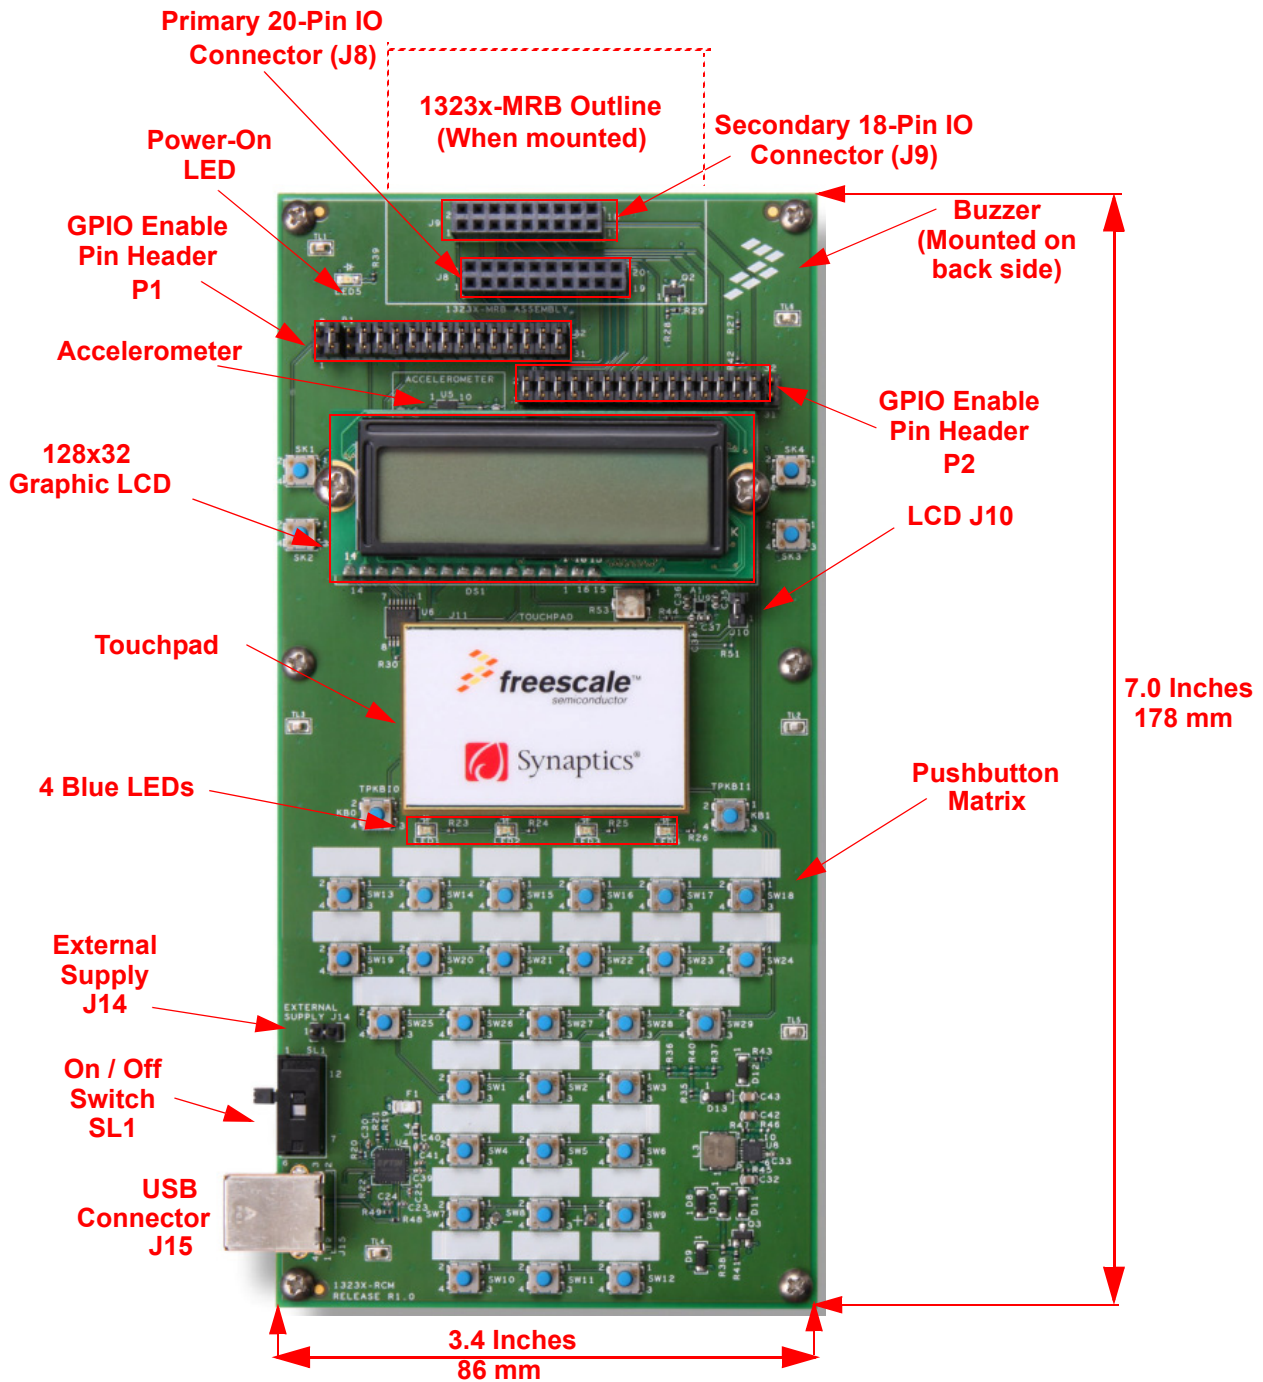

Figure 4-1. 1323x-RCM (1323x-MRB)
Figure 4-1 shows a photo of the 1323x-RCM with the location of connectors and headers designated.
The 1323x-Modular Reference Board (1323x-MRB) mounts on the 1323x-RCM via receptacles J8 and J9. Figure 4-1 shows an outline of the 1323x-MRB placement when mounted.
- Figure 4-1 for location of connectors and features